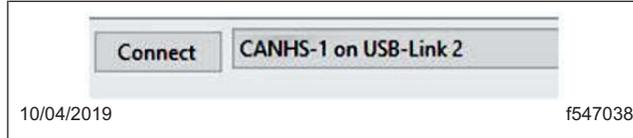
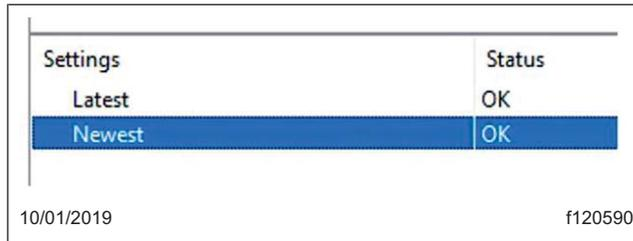

Fig. 5, Connect Button
Fig. 6, Selecting the Newest Software Version
13. Click "Connect" and select "Newest." See Fig. 5. If "Newest" is not available, it is possible that the current BHM software is not 7.41. Go to the "Identification" tab and check the software version. See Fig. 6.